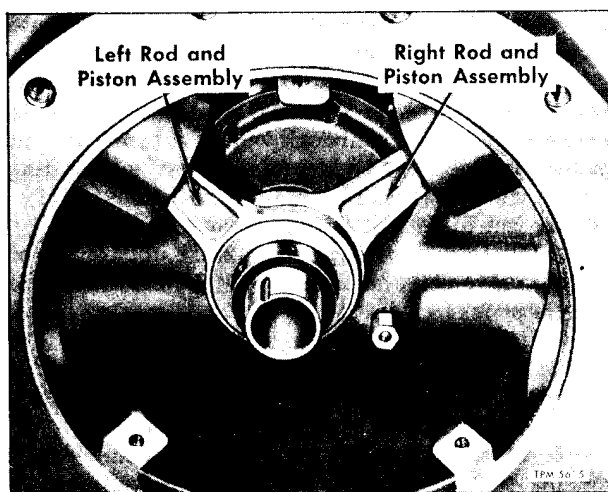

Figure 53—Right and Left Connecting Rods Installed
3. **NOTE:** Connecting rod and piston assemblies are installed in the reverse order of their removal. As viewed from rear of compressor, install right assembly, left assembly, then the center assembly last (fig. 53).